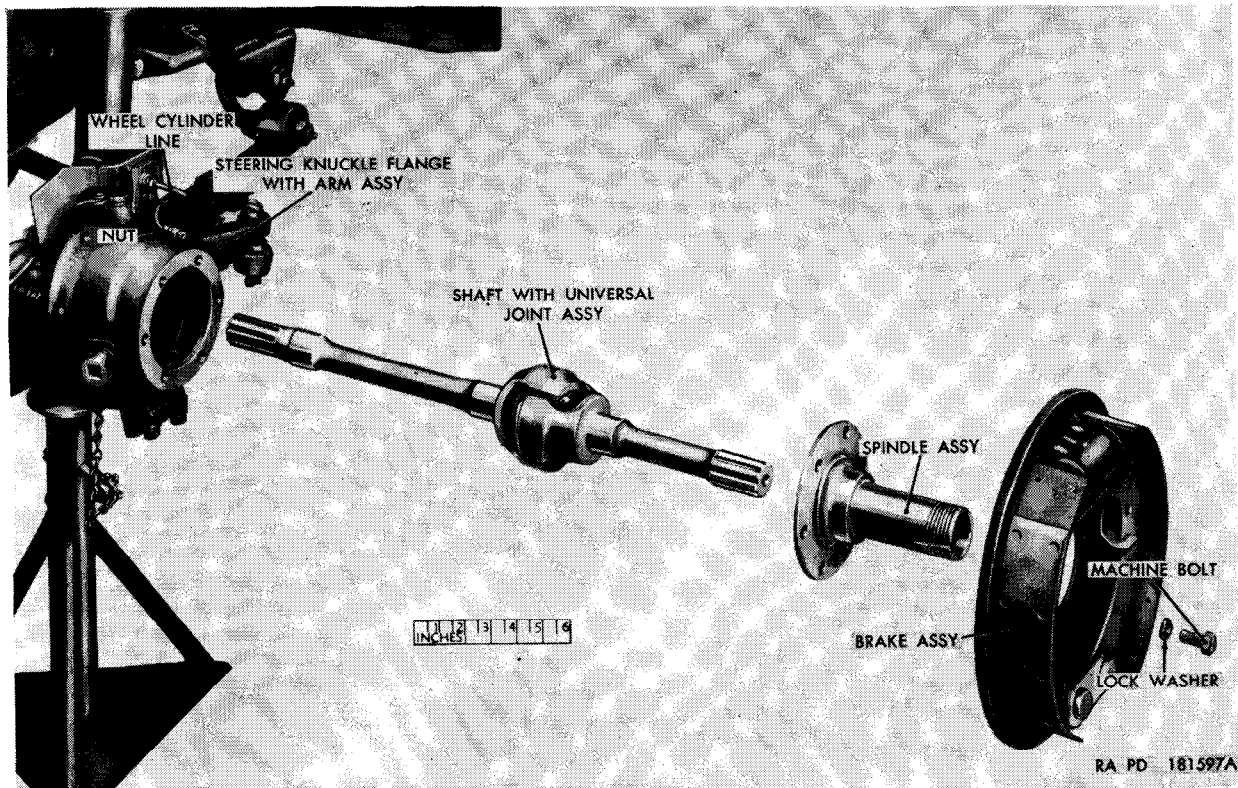

Figure 101. Front axle shaft, spindle, and brake assemblies—partially exploded view.
- (11) Unscrew the nut of the front wheel cylinder line (fig. 101) from the wheel cylinder assembly.
- (12) Remove the six bolts and lockwashers securing the brake assembly and spindle assembly to the steering knuckle flange with arm assembly (fig. 101) and pull the brake off the spindle.
- (13) Pull spindle (fig. 101) from steering knuckle.
- (14) Pull the shaft with universal joint assembly out of the axle housing.
- (1) Insert the shaft with universal joint assembly through the steering knuckle flange with arm assembly (fig. 101) and into the axle housing. Rotate the shaft until the splines on the shaft enter the differential side gear. With a soft mallet, tap axle shaft into axle housing until it seats.
- (2) Position the spindle assembly (fig. 101) on the shaft, align the spindle mounting holes with the mounting holes in the steering knuckle flange and tap the spindle into position against the flange.
- (3) Position the brake assembly on the shaft, align the mounting holes in the brake with the mounting holes in the spindle and press brake against the spindle. Secure the brake and spindle to the steering knuckle flange with six $\frac{3}{8}$ -inch lockwashers and $\frac{3}{8} \times 3\frac{3}{4}$ bolts (fig. 101).
- (11) Screw the nut of the front wheel cylinder line (fig. 101) into the wheel cylinder assembly.
- (12) Position the hub cap over the shaft drive flange and tap into position.
- (13) Install wheel (par. 228).
- (14) Remove the safety stands or blocking and lower vehicle to ground.
- (15) Bleed brakes (par. 246).